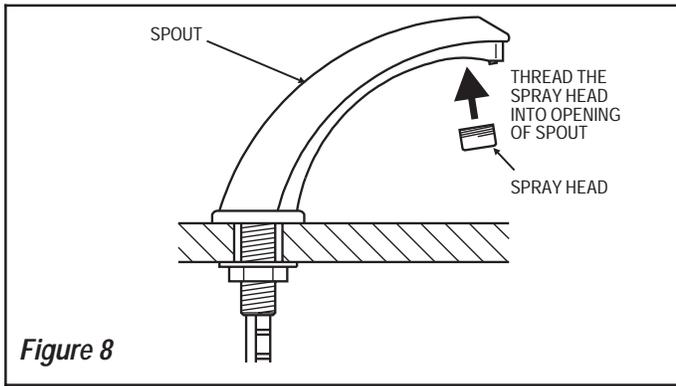

Figure 8
Step 9 — Install Spray Head (Figure 8)